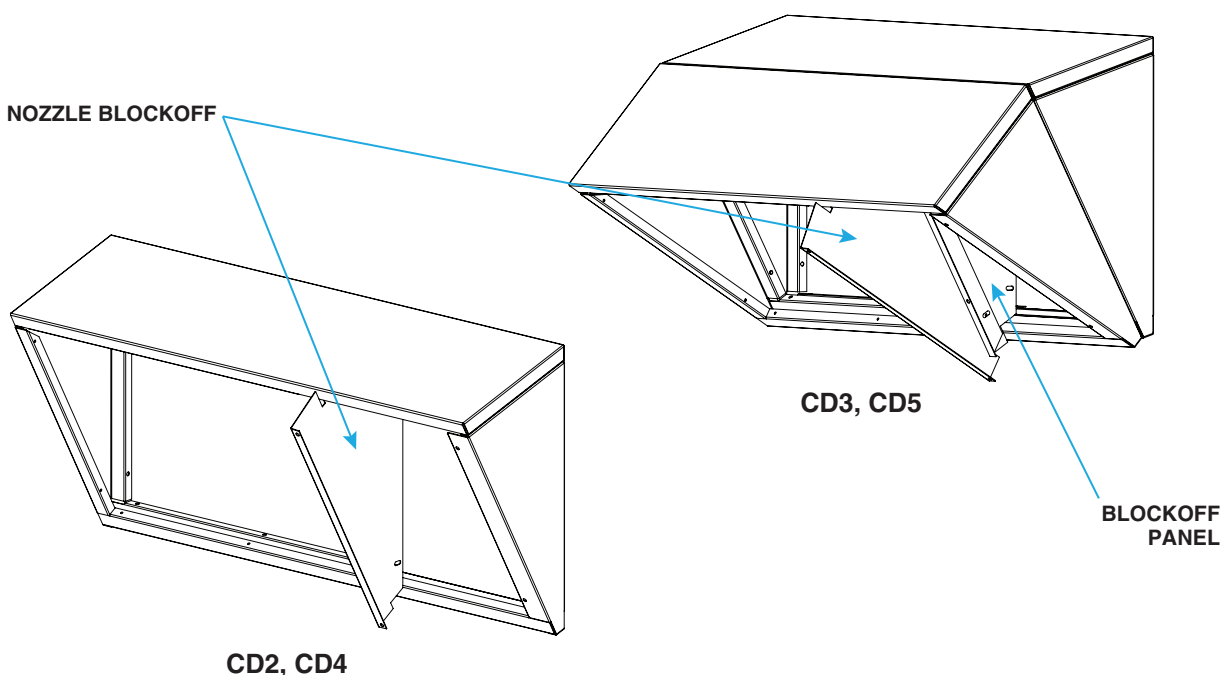

Figure 1. Downturn Nozzle Assemblies
1. Assemble top and side panels of downturn nozzle assembly (see Figure 1):
6. If installing option CD3 or CD5, position second assembled nozzle section in outlet of nozzle already installed. Secure second nozzle section to first nozzle section using screws from kit to create downturn with two sections (see **Figure 1**).
- b. Slide nozzle bottom (see **Figure 1**) into place so that it rests on small tabs on each side. Align holes and secure nozzle bottom to face plate using screws from kit.
- b. Position nozzle blockoff (see **Figure 1**) so that holes align and secure to face plate using screws from kit.
- c. If installing option CD3 or CD5, secure blockoff panel (see **Figure 1**) to nozzle blockoff.